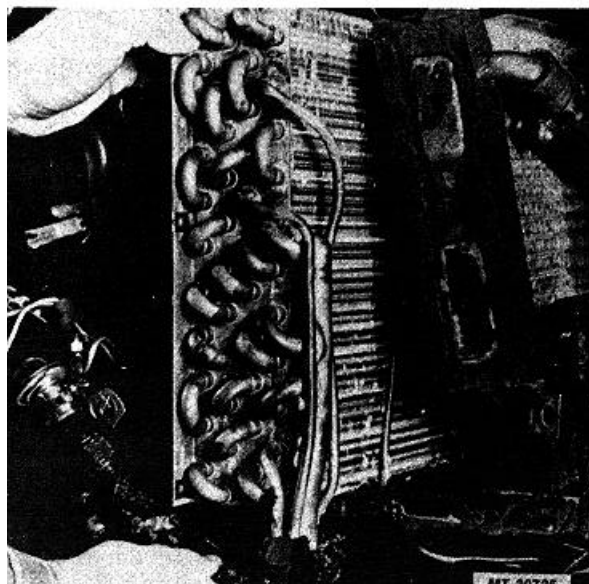

Fig. 48 Removing Evaporator Core
13. Remove evaporator core from unit housing (Fig. 48).